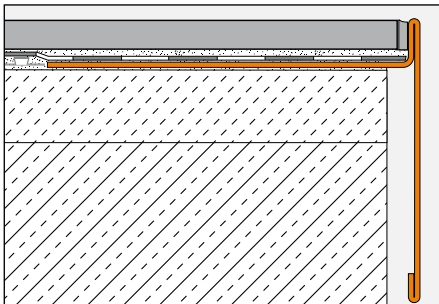
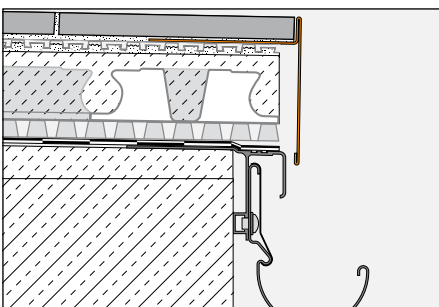

Fig. 4
Fig. 5
Installation in conjunction with bonded tile assemblies with BARA-RT (Fig. 4 and 5)
2. Embed the trapezoid perforated anchoring leg of BARA-RT on the edge of the screed (Fig. 4) or on the previously installed drainage membrane Schlüter-DITRA-DRAIN (Fig. 5) by placing it into the thin-set mortar bed and completely covering it with mortar.